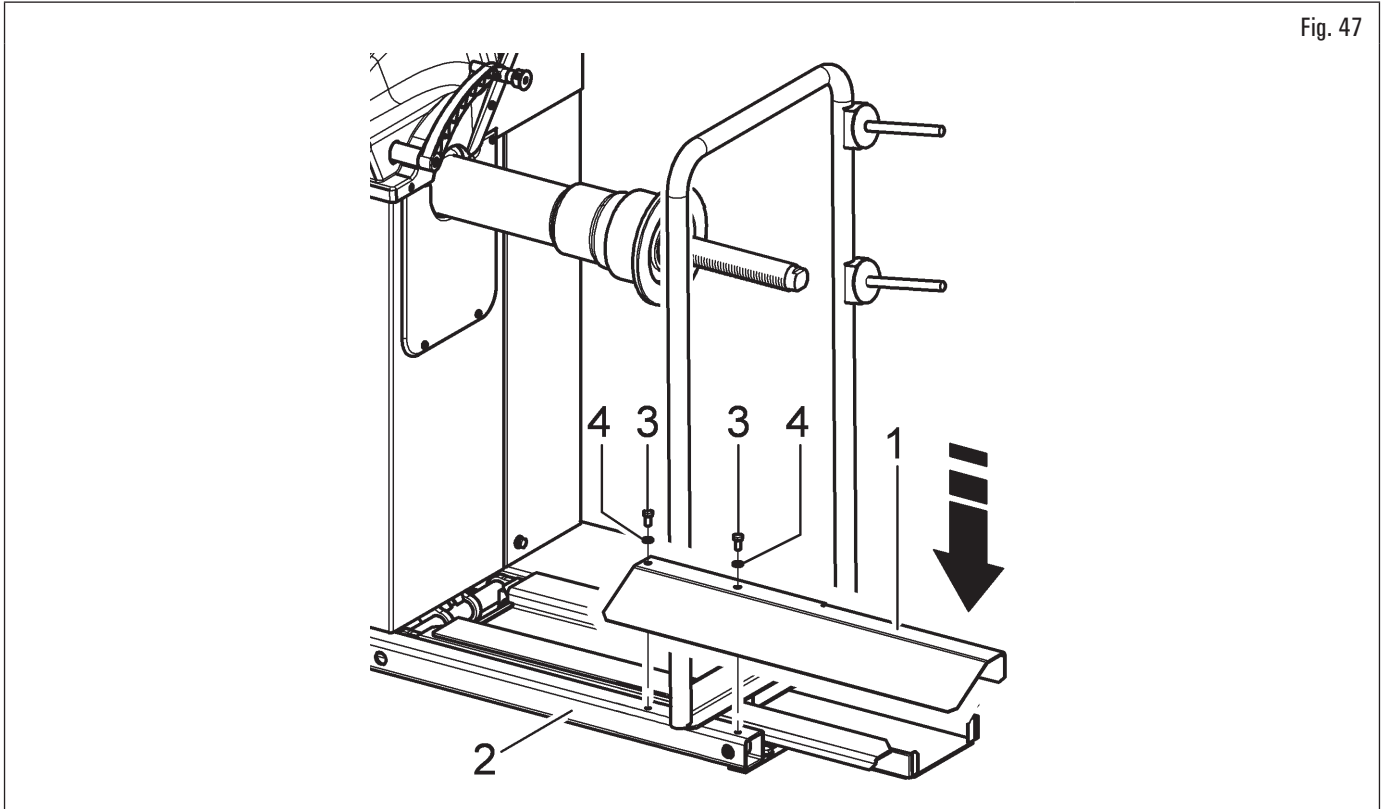

Fig. 47
Secure the foot guard protection (Fig. 47 ref. 1) to the base of the lifting device (Fig. 47 ref. 2) using the 2 issued bolts (Fig. 47 ref. 3) and washers (Fig. 47 ref. 4).